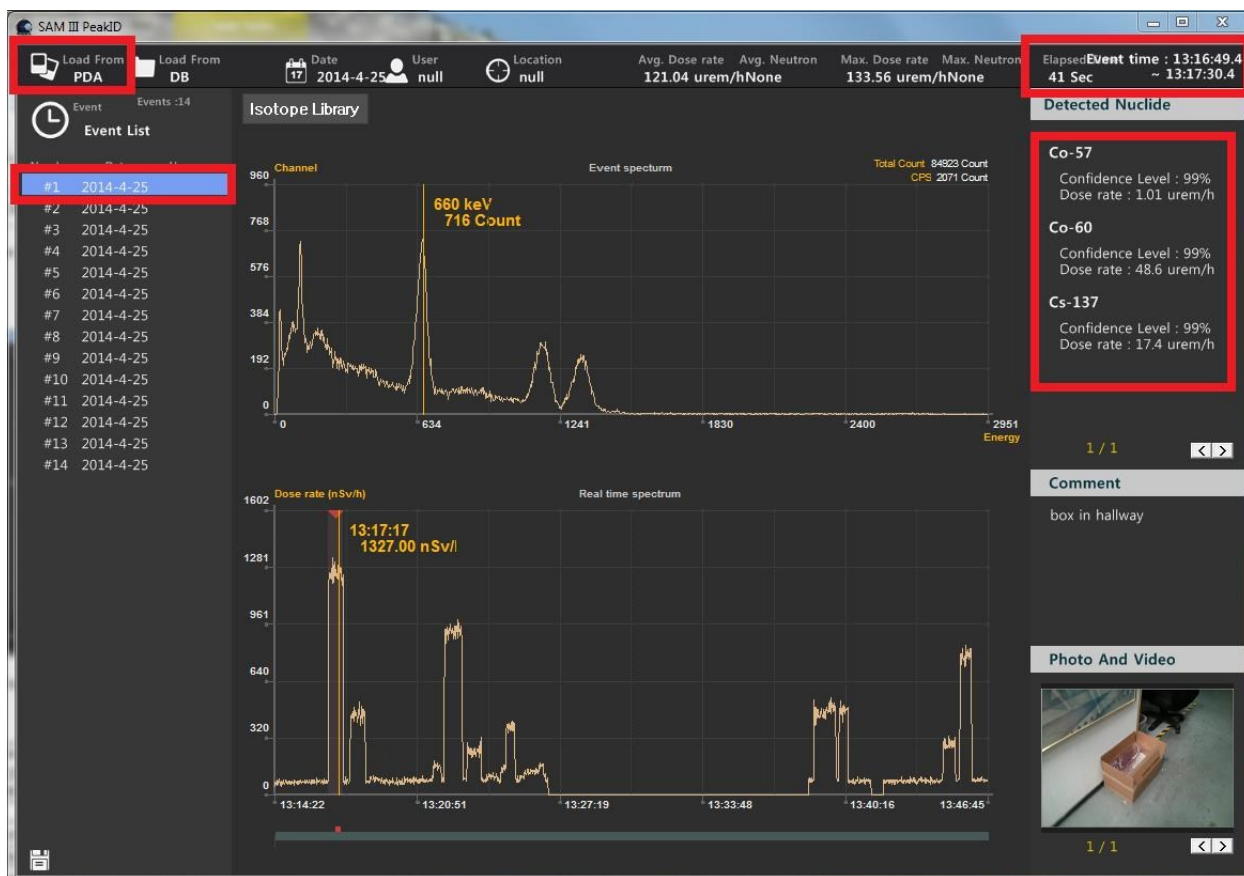

Figure 5.5. Event Log download from smartphone to PC
2. Click **Load from PDA** (Figure 5.5, top left)
PeakID automatically downloads the Event Log to the PC database and deletes it from the smartphone. Downloaded events are displayed in the Event List window (Figure 5.5, upper left).
The spectrum is displayed in the Event Spectrum window (Figure 5.5, center)
Time and duration of the selected event are displayed in the Real-Time Activity window (Figure 5.5, top right)
Isotope information for the selected event is displayed in the Detected Nuclide window (Figure 5.5, upper right)
6. The Event Log is highlighted in the Event List window. The selected event is displayed in the Event Spectrum window. Isotope information and all relevant event data are displayed as in Figure 5.5.